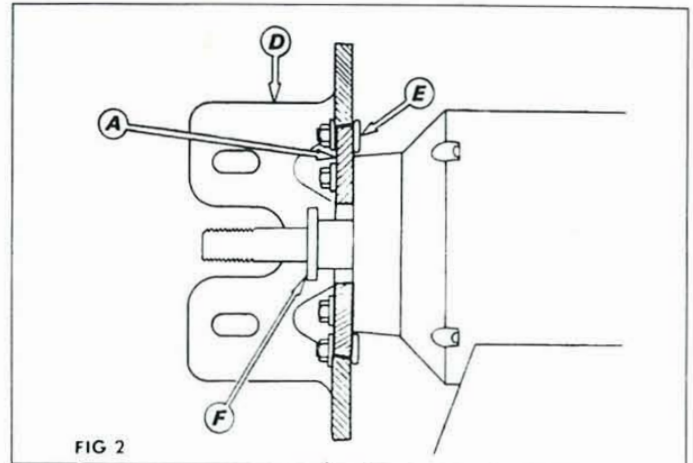

FIG 2
Fit idler arm H using $\frac{5}{16}$ " diameter bolts J and washers provided. Fit one of the heavy dished wheel flanges G provided in the kit, that suit either $\frac{1}{2}$ " diameter or $\frac{5}{8}$ " diameter shaft size and check that it clears heads of bolts B. If it fouls, use either $\frac{1}{2}$ " or $\frac{3}{8}$ " diameter washer F Fig 2 (provided in kit) behind flange. Pulley is fitted with precision nylon bush to suit $\frac{5}{16}$ " (15.9) shaft. Fit additional bush to suit $\frac{1}{2}$ " (12.7) shaft. For $\frac{3}{4}$ " (19) shaft, remove bushes with care. A bush is provided to suit 14mm shaft.